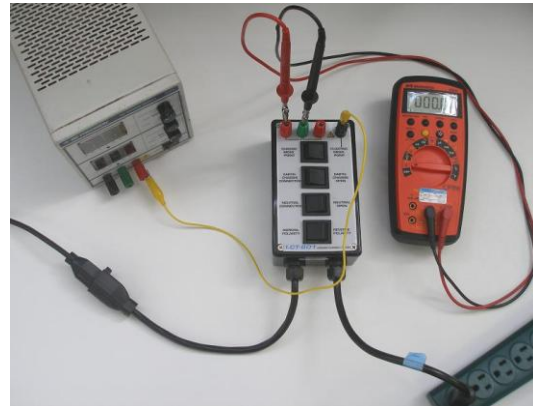

Figure 3 Non-isolated Patient Leads
12. See Figure 3 and Table 3 for a Test Setup synopsis. This section is based